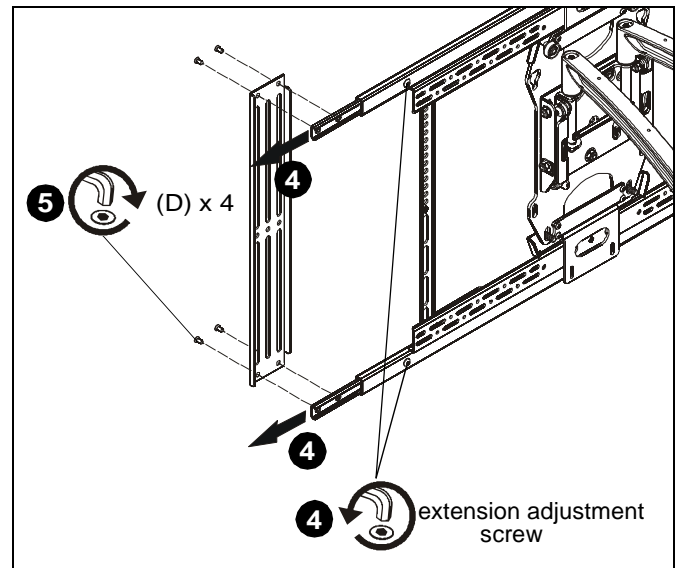

Figure 8
4. If necessary, extend arms beyond edge of display by loosening (not removing) extension adjustment screws on horizontal brackets and extending arms. Tighten adjustment screws when desired position is reached. (See Figure 8)
5. Use four #10-24 x 3/8" Phillips machine screws (D) to connect second speaker bracket (C) to upper and lower horizontal brackets (A). (See Figure 8)